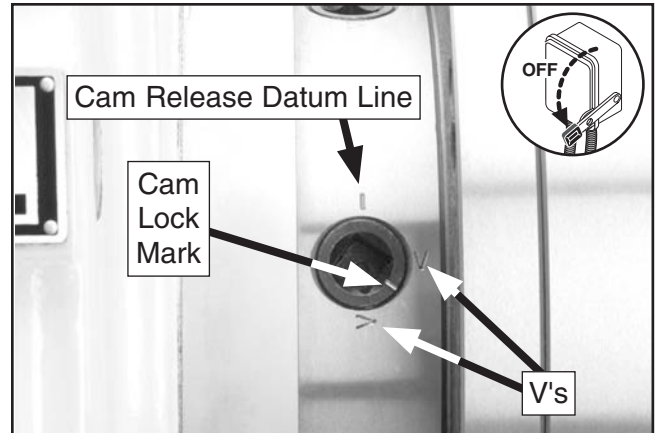

Figure 18. Cam and lock marks.
7. Turn a camlock with the chuck key until the cam line falls between the "V" marks **Figure 18**.
Note: If any of the cam lock marks (**Figure 18**) do not fall between the "V" marks when the cam lock is tight, you must adjust the offending camlock stud as discussed in **Camlock Stud Adjustment** on **Page 27**.